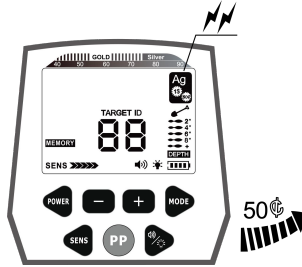

Fig.13
- d. When sweeping the 50 ¢ silver coin, the detector responds, indicating that the detector has memorized the 50 ¢ silver coin. When sweeping the other five samples, the detector does not respond. (see Fig.13, take the 50 ¢ silver coin as an example)